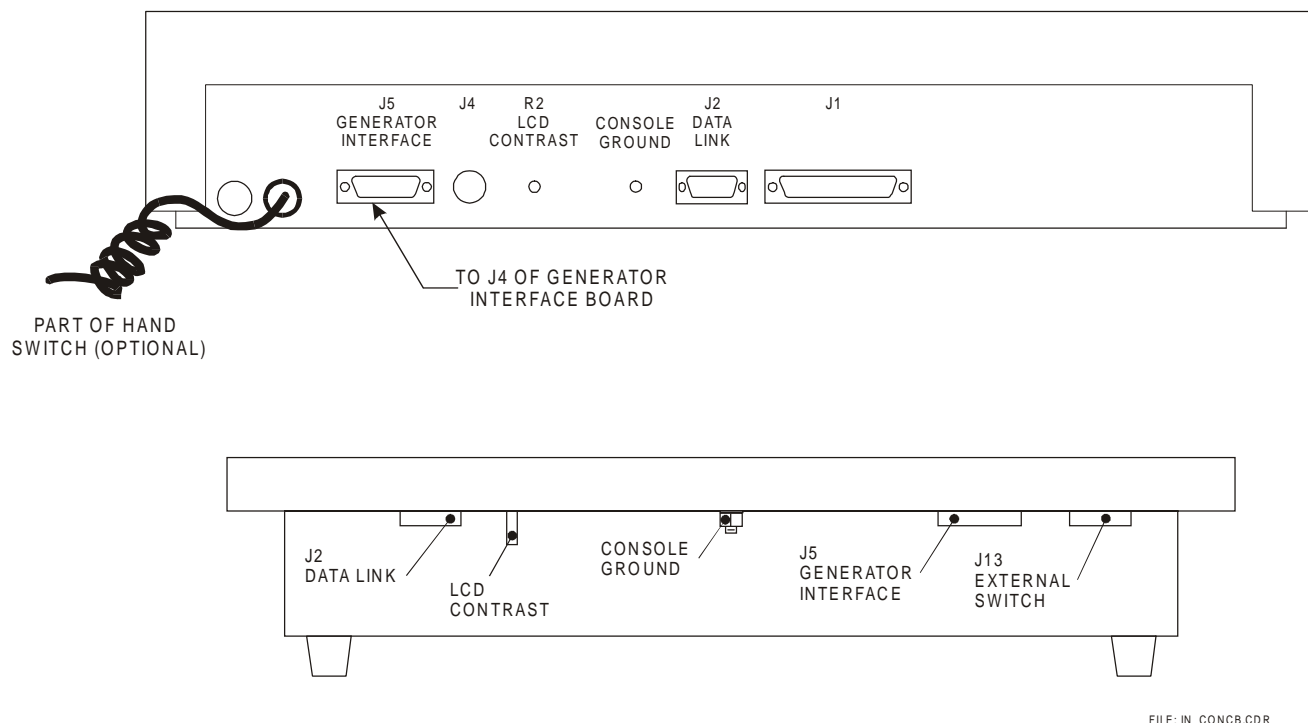
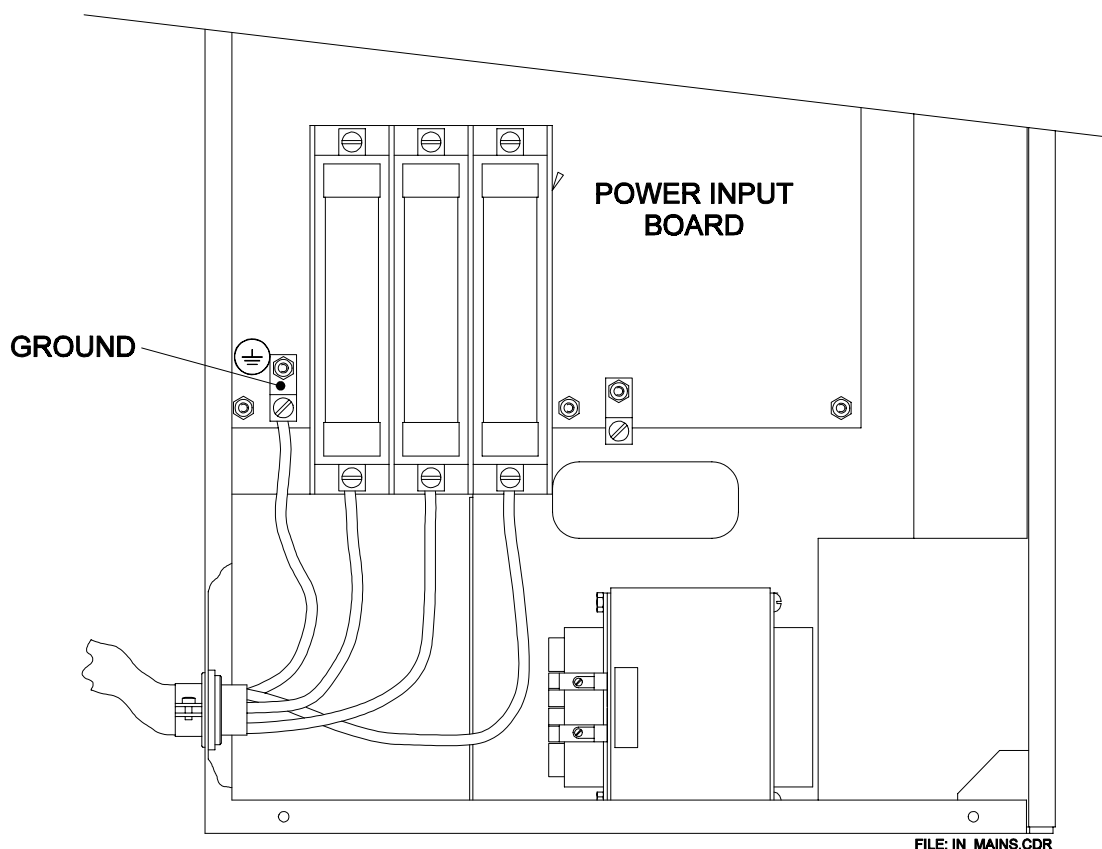

Figure 2-3: Rear of control console
Figure 2-7: Generator mains connections
2. Connect a separate ground wire, #14 AWG (2.3 mm²) or larger, from the ground stud on the rear of the console (marked CONSOLE GROUND in figure 2-3) to the ground stud located to the left of the main fuse block on the power input board. This is marked GROUND in figure 2-7.
3. Figure 2-3 shows the designations and functions of the connectors on the rear panel of the 23 X 56 (cm) and the 31 X 42 (cm) control console.
3. Temporarily remove the safety cover from the main fuses. Strip sufficient cable jacket to allow the ground wire to reach the main ground connector located at the left side of the main fuse block. Refer to figure 2-7.